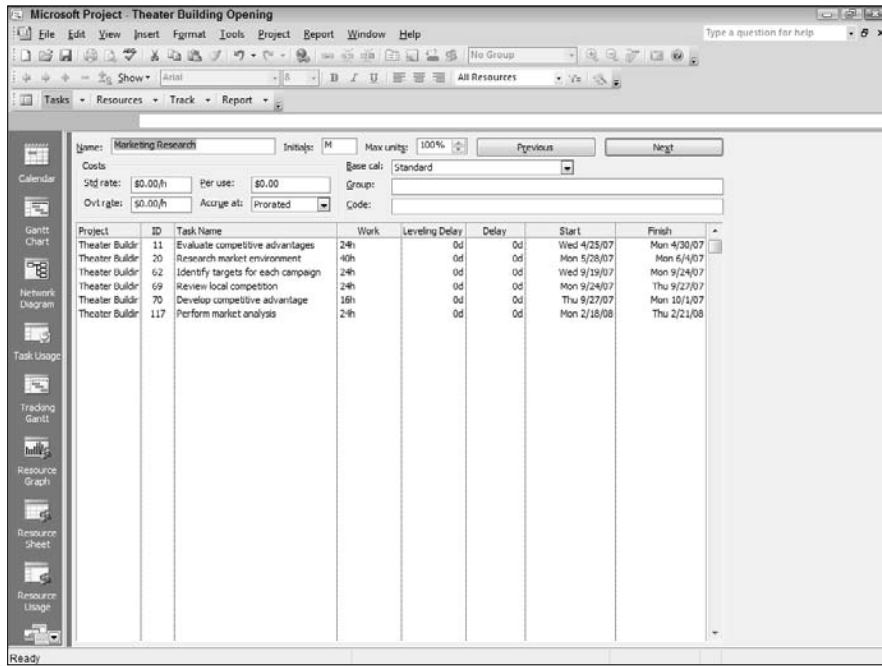

Figure 3-10:
- ◆ **Resource Form** view (see Figure 3-10), like the Task Entry view, is a summary of all of a resource's settings on a single page. Use this view to review resource assignments, calendars, and rates of pay. It's a one-page alternative to the various tabs of the Resource Information dialog box.